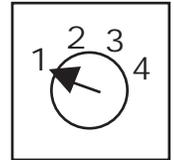

Figure 1 –
1. Before installing regulator, make sure battery-age switch on back of regulator is set for appropriate battery age in years. See Table 1 and Figure 1. Then install regulator in location determined by vehicle manufacturer.